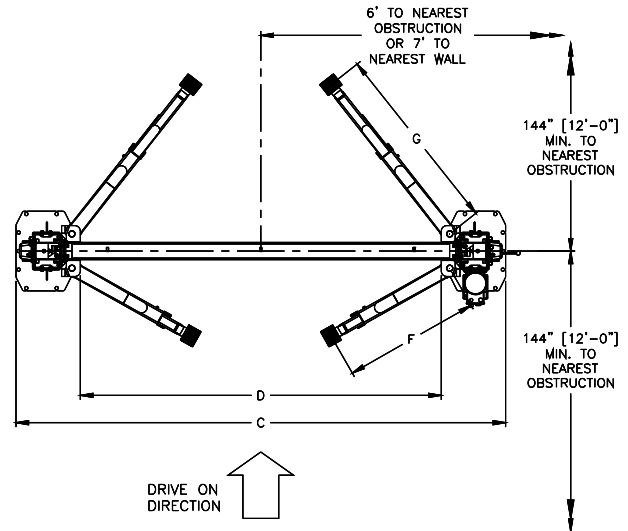
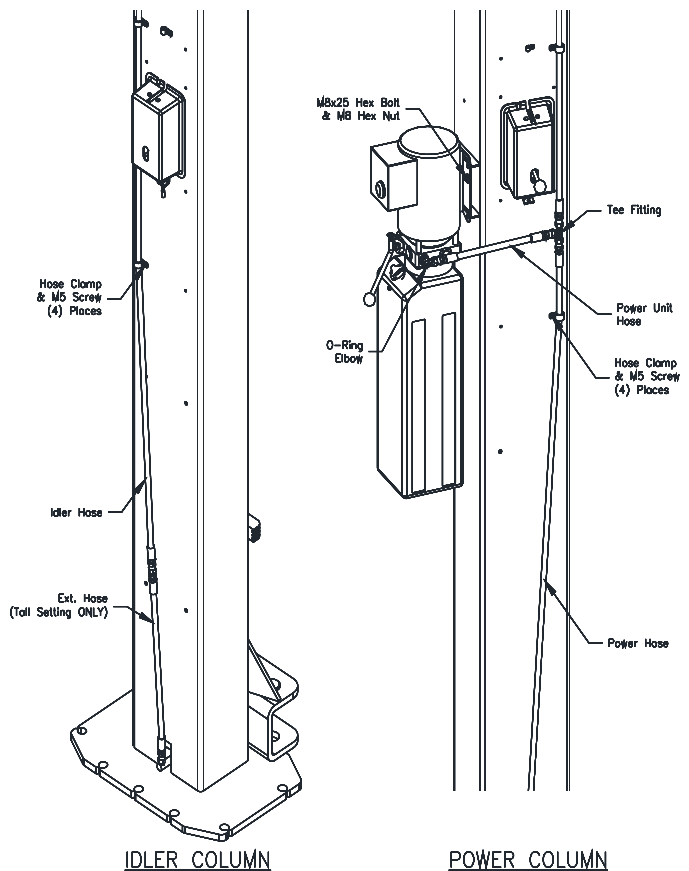

Fig1b - Service Bay Layout
**Fig. 5 – Synchronizing Cables**
- Layout the service bay according to the architect's plans or owners' instructions (**see Fig 1b**). **Failure to install in this orientation can result in personal and property damage.** Be certain that the proper conditions exist, see page 3.
- Attach bolt-on parts to column extensions as shown in **Fig. 5** and assemble columns using M12 x 30 Hex bolts. Ensure power extension assembly is bolted to power column. NOTE: Install Nut and Washers on exterior of the assembly
- 4) Recheck "Inside of Columns" dimension (Fig. 1b).
**Complete steps 5 thru 7 for the seven (7) anchors (one at a time) around each column.**
- 8) Shim both columns to plumb using the shims provided as shown in Fig. 5. DO NOT shim more than 1/2" at any given point. Use a level no less than 24" in length to plumb columns.
- 18) Attach one end of synchronizing cable to carriage. See **Fig. 5** for proper attachment.
- 19) Route cable up and over sheave in overhead. Follow across to other sheave on opposite column. Route down through carriage to sheave in bottom of column. Route under sheave and up to cable attachment. Lower attachment point is used for Standard Height Installation (175") and the Upper attachment point is used for Reduced Height Installation (166"). Use **Fig. 5** for proper attachment.